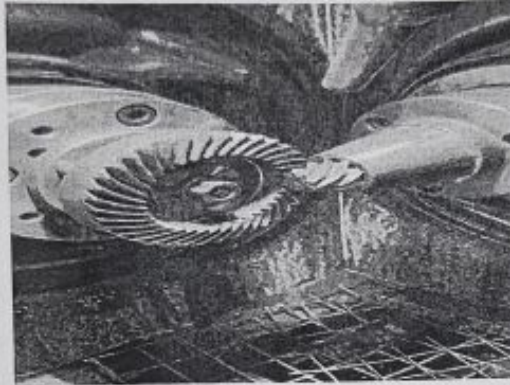

Figure 2. Gear finishing methods
(1) Grit, (2) Grade, (3) Structure, (4) Loading, (5) Glazing, (6) Dressing, and (7) Truing
7. Identify and explain the following two gear finishing methods shown in Figure.2 in details and also list out their advantages and limitations.